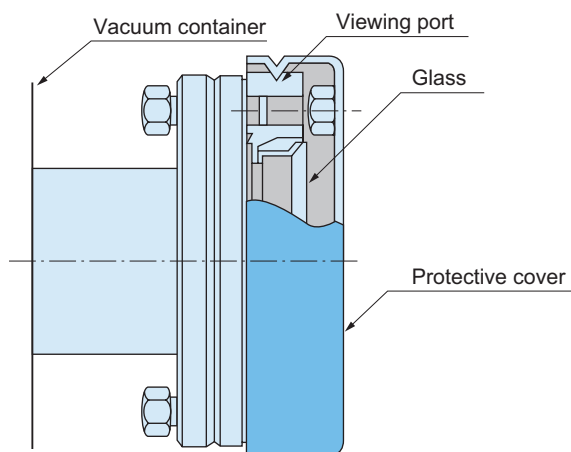

Fig. 4
2. Can be easily installed on the viewing port. Fig. 4 shows the protective cover.